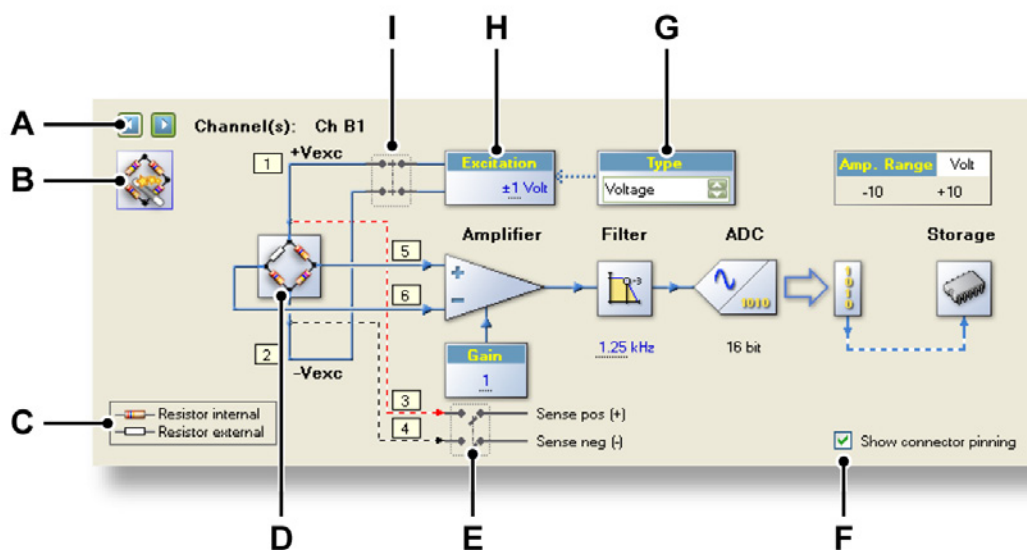

Figure 12.29: Perception Bridge Amplifier simplified block diagram
- In the simplified graphical diagram click on the bridge icon (D in Figure 12.29 on page 319) until you see the full bridge representation.
- In the simplified graphical diagram click on the bridge icon (**D** in Figure 12.29 on page 319) until you see the half bridge representation.
- In the simplified graphical diagram click on the bridge icon (**D** in Figure 12.29 on page 319) until you see the quarter bridge representation.
- In the simplified graphical diagram click on the excitation switch (I in Figure 12.29 on page 319).
- In the simplified graphical diagram click the **Type** spinner (G in Figure 12.29 on page 319) until you see your selection.
- In the simplified graphical diagram use the **Excitation** box (H in Figure 12.29 on page 319) to enter a value.
- **Voltage Sense:** Voltage excitation with sense. When you select this option the sense lines are used: this will put the switch marked S1a and S1b in Figure 12.29 on page 319 into the sense position. Use the **Voltage** procedure to set the required voltage. You can also use the sense check boxes (marked E in Figure 12.29 on page 319) to toggle the sense lines.